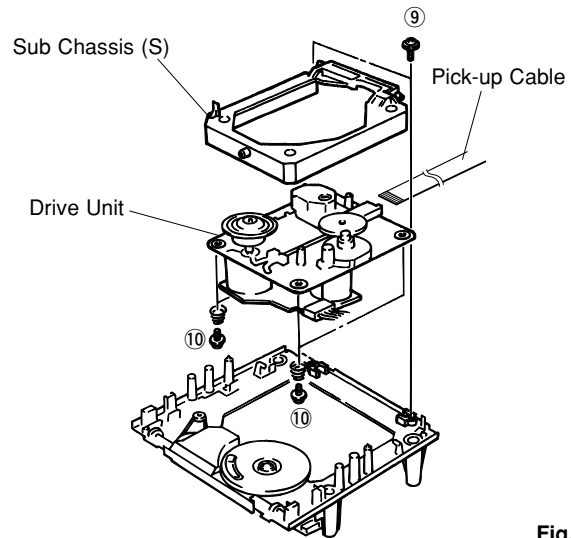

Fig. 8
- Remove 2 screws (⑨) in Fig. 8.
- Remove a pick-up cable in Fig. 8.
- Remove 4 screws (⑩) and then remove the Drive Unit in Fig. 8.